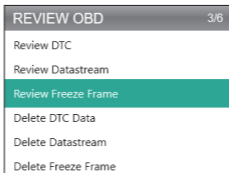

Figure 5.1.3
3. Select Review OBD, and press [OK]. Six options will appear on screen (See Figure 5.1.3) - such as reviewing DTC, Datastream, Freeze Frame, and more.